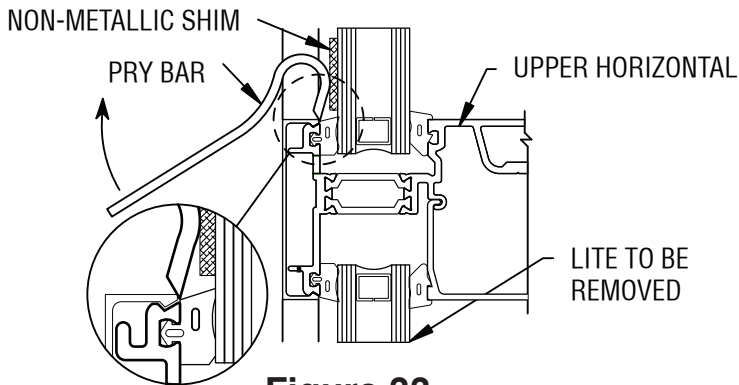

Figure 33
- D.2 WHEN REGLAZING FROM THE EXTERIOR. Carefully remove horizontal face covers surrounding the lite of glass to be deglazed. **SEE FIGURE 33.**